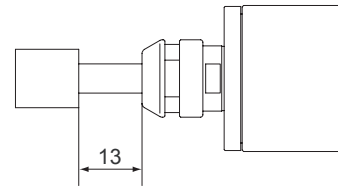

Fig. 15
- ① The proper surface speed for general grindstones is 10-30m / s.
- ② Do not exceed 13mm of overhang for mounted grindstones as shown in Fig. 15. If the overhang must exceed 13mm, reduce the brushless motor speed in accordance with Table 3.
- ③ Dress the grindstone prior to use.
- ④ Do not use cutting tools with bent or broken shanks, cracks or excessive run-out.
- ⑤ For grinding, the maximum depth of cut should not exceed 0.01mm radially or axially. Reciprocate the tool several times after each pass to eliminate tool pressure.
- ⑥ Always operate cutting tools within the allowable recommended speed of the cutting tools. Use of a cutting tool outside of the allowable speed of the cutting tools could cause damage to the Spindle and injury to the operator.
- ⑦ Keep the cutting tool shank and collet clean. If contaminants are left in the collet or collet nut, excessive run-out will cause damage to the cutting tool and or Spindle.
- ⑧ Do not strike or disassemble the Motor Spindle.
- ⑨ Please set the cutting tools to minimize the overhang amount. 13mm is the maximum amount of overhang to maintain high accuracy and safety.